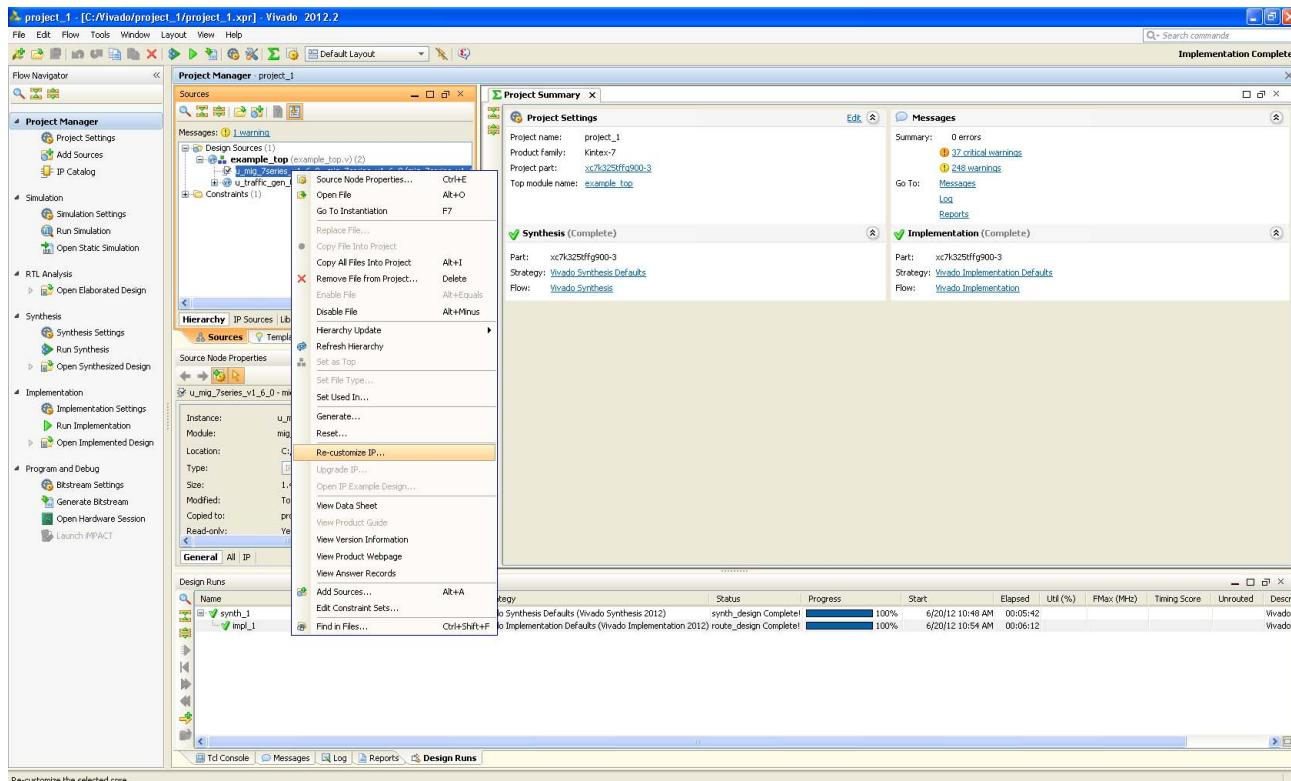

Figure 6-21: Recustomize IP
22. Recustomization of the MIG IP can be done by using the Recustomize IP option button. It is not recommended to recustomize the IP in the example\_design project. The correct solution is to close the example\_Design project, go back to original project and customize there. Right-click on the XCI file and click **Recustomize IP** (Figure 6-21) to bring up the MIG GUI and regenerate the design with the preferred options.